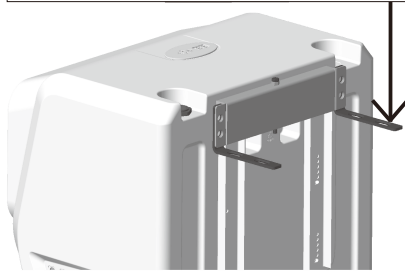

Figure5-2
- Pool surface installation: The L-shaped fixing strip of the skimmer pool facing upward (as shown in Figure 5-1), and the installation instruction is shown in Figure 5-4. The L-shaped fixing strip of the counter-current pool facing downward (as shown in Figure 5-2), and the installation instruction is shown in Figure 5-5.